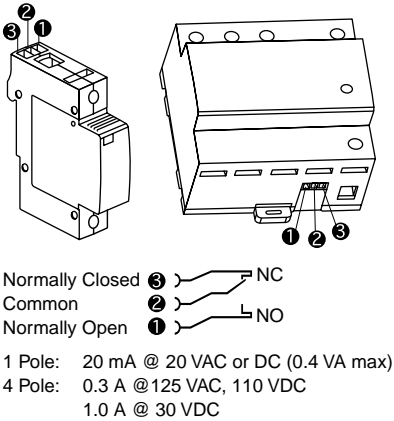

Figure 5: Remote Monitoring (optional)
- Remote Monitoring (Dry Contact option) (see Figure 5). A three-pin socket and plug are provided to allow the customer to wire one set of normally open (NO) and normally closed (NC) "Dry" Contacts to a remote monitoring indicator. The customer must provide power for this indicator, keeping within the specifications shown in Figure 5.